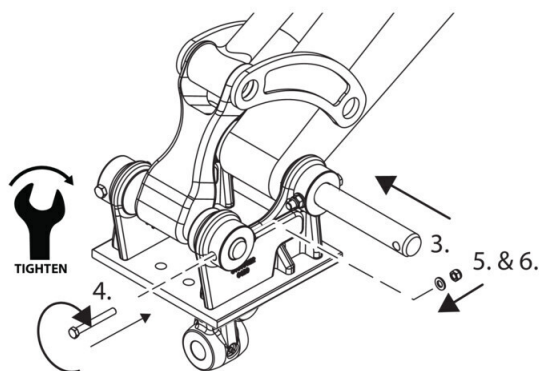

Fig. 12
Insert item(s) 3. and affix with items 4., 5. & 6. (4 places). Tighten to 20-25 Nm (14-18 ft-lb), 4 places. Grease as per parent machinery manufacturers instruction. **Fig.12.**